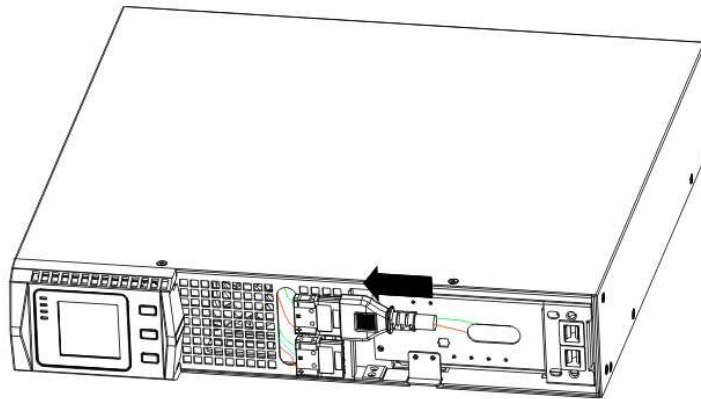

Figure8 Connecting the UPS Internal Batteries
2. Connect the internal battery connector (see Figure8)